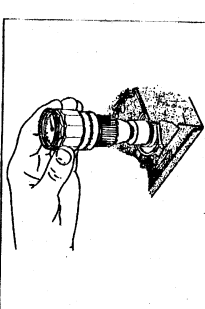

Fig. M18
- Keep turning until the indication at the torque meter no longer changes (see Fig. M18).